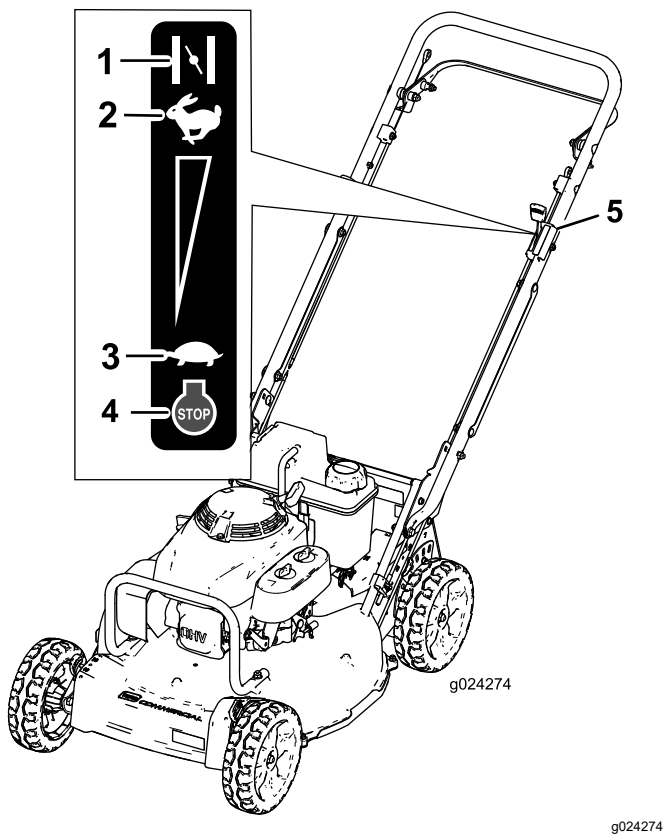

Figure 16
3. Move the throttle-control lever to the CHOKE position (Figure 16).
5. When the engine starts, move the throttle-control lever to the Fast position (Figure 16).
Release the blade-control bar and move the throttle-control lever to the STOP position (Figure 16).